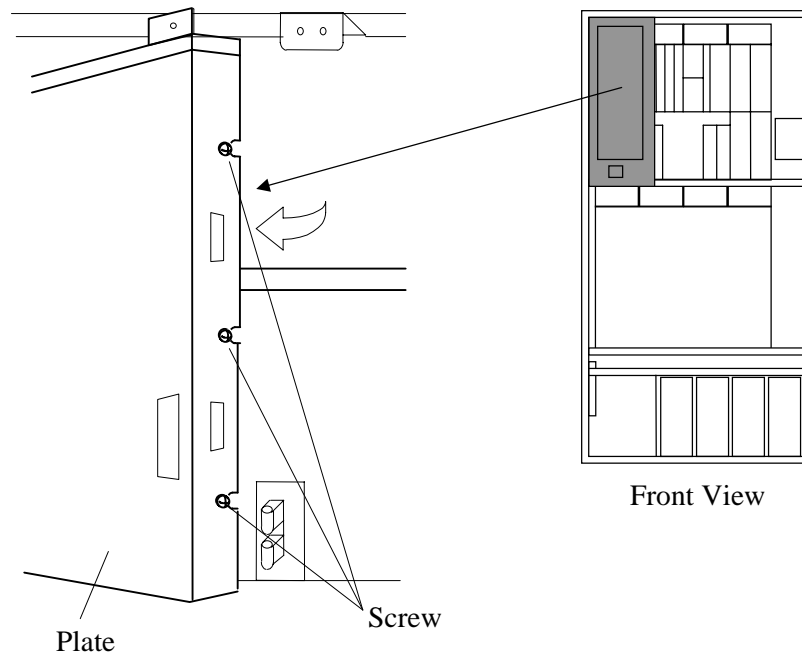

Fig. 4.6-3 Removal of Plate
- h. Attach the plate to the Movable rack and fasten the three screws. Refer to Fig. 4.6-3.